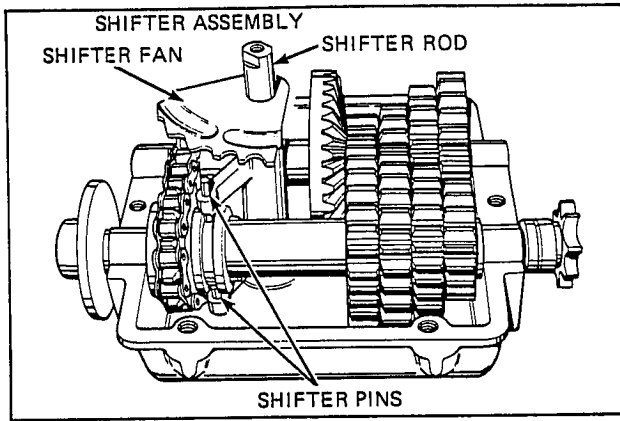

Figure 2-21
4. Remove shifter assembly (includes shaft, pins and fan) from transmission case by lifting shaft out of case. See Figure 2-21.
5. Remove gear and shaft assemblies from case half of the transmission by lifting the two shafts out of the bearing supports taking care not to disturb drive chain relationship with sprockets. See Figures 2-21 and 2-22.